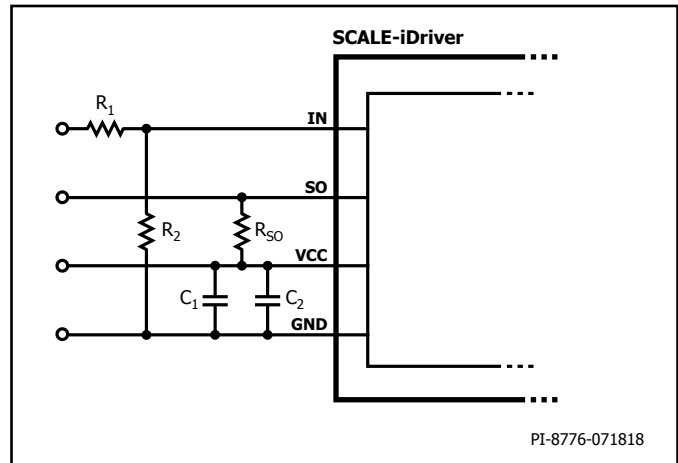
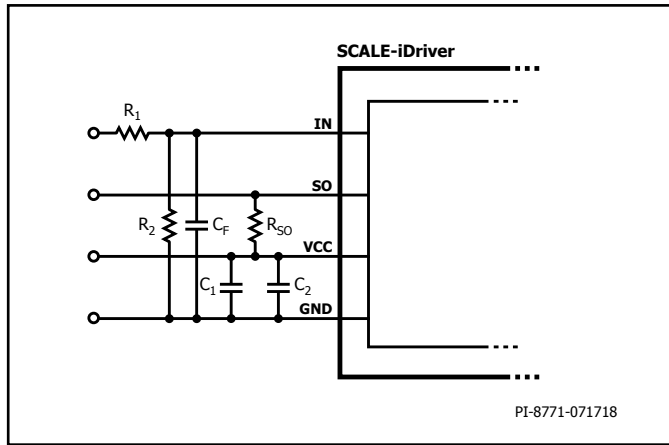

Figure 6. Recommended Circuitry for Increased IN Logic Levels. For $R_1 = 3.3\text{ k}\Omega$ and $R_2 = 1.2\text{ k}\Omega$ the IN Logic Level is 15 V.
Figure 7. Primary-Side of Example Circuitry.
If the physical distance between the controller and the SCALE-iDriver is large a line driver is recommended or increase the logic level to 15 V. For 15 V logic level, the resistive divider in Figure 6 is recommended. This solution adjusts the logic level as necessary and will also improve driver's noise immunity.
For the input the circuitry of Figure 6 is recommended, when using 15 V input logic. R_1 and R_2 represent a voltage divider to get a 5 V signal at the IN pin. If additional filtering is required a capacitor C_F can be placed in parallel to R_2 as depicted in Figure 7. The time constant τ can be calculated by Equation (1). In case direct 5 V logic is used at the IN pin, R_2 is recommended at any case and R_1 can be reduced to 100 Ω .